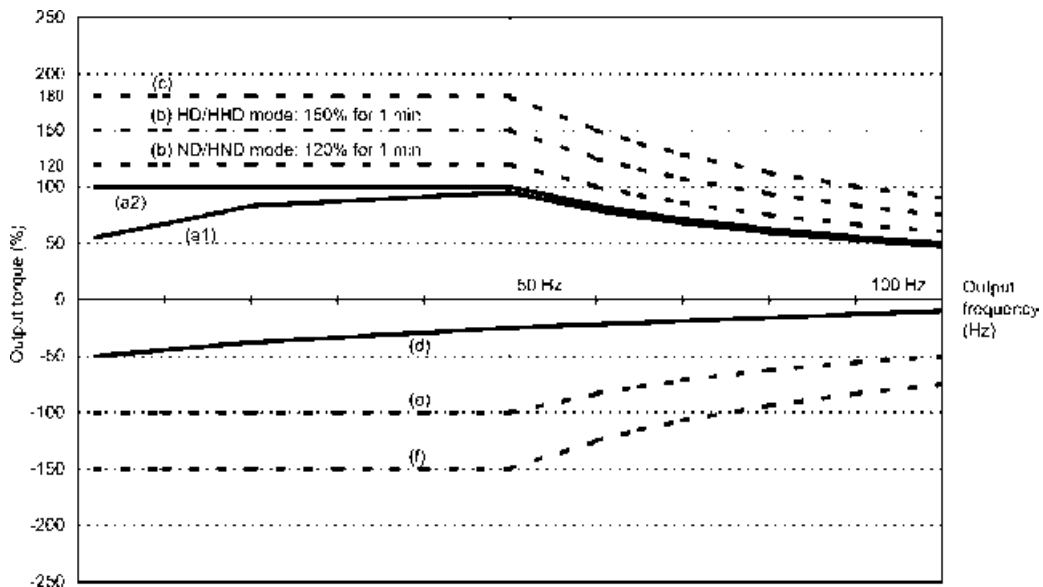
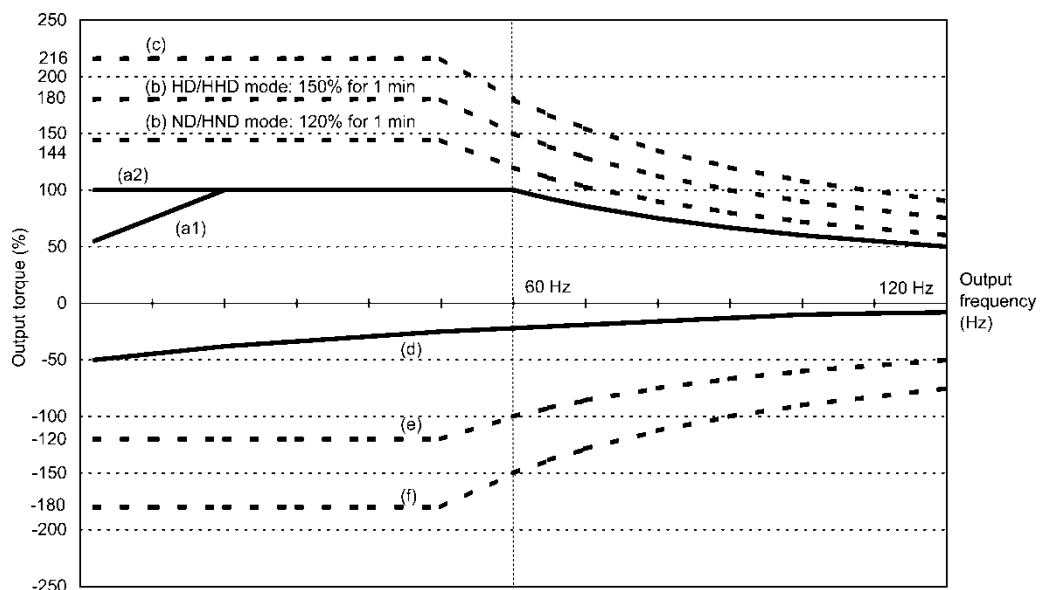

Fig. 10.1-1 Output torque characteristics (base frequency: 50 Hz)
Fig. 10.1-2 Output torque characteristics (base frequency: 60 Hz)
Fig. 10.1-1 and Fig. 10.1-2 graph the output torque characteristics of motors versus the output frequency for 50 Hz and 60 Hz base frequencies. The horizontal and vertical axes show the output frequency and output torque (%), respectively. Curves (a) through (f) depend on the running conditions.
## 1) Standard motor (Curve (a1) in Fig. 10.1-1 and Figure Fig. 10.1-2)
## 2) Motor exclusively designed for vector control (Curve (a2) in Fig. 10.1-1 and Fig. 10.1-2)
**(2) Maximum driving torque in a short time** (Curves (b) and (c) in Fig. 10.1-1 and Fig. 10.1-2)
**(3) Starting torque** (around the output frequency 0 Hz in Fig. 10.1-1 and Fig. 10.1-2)
**(4) Braking torque** (Curves (d), (e), and (f) in Fig. 10.1-1 and Fig. 10.1-2)